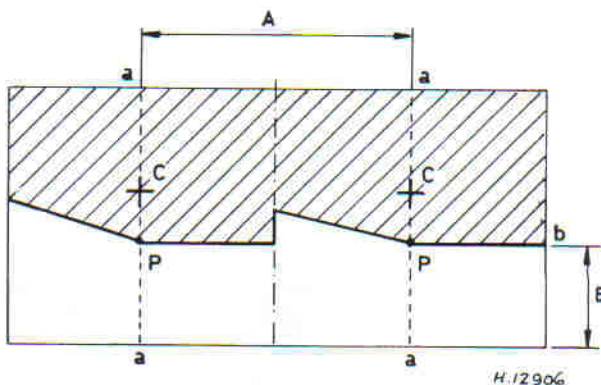

Fig. 12.3 Headlight beam adjustment diagram (Sec 13)
- 8 Draw lines on the wall, the intersections of which should correspond to the headlight centres (see Fig. 12.3).